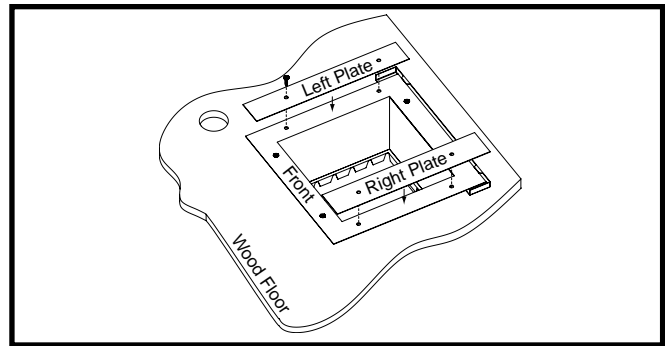

Figure 15. Duct Connector Side Plates
8. Install 2 plates (Figure 15) on top of the duct connector, one on each side (left and right) of the opening. Align the screw holes in both components.